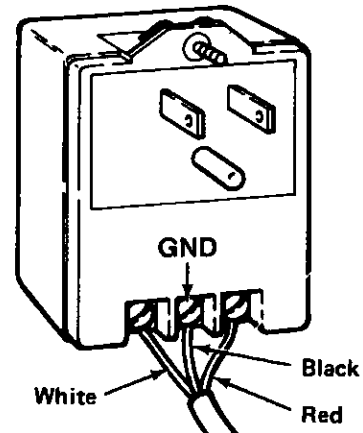

Figure 14 - Transformer Connections
1. Connect the D-120 input power wires to the plug-in transformer as shown in figure 14.